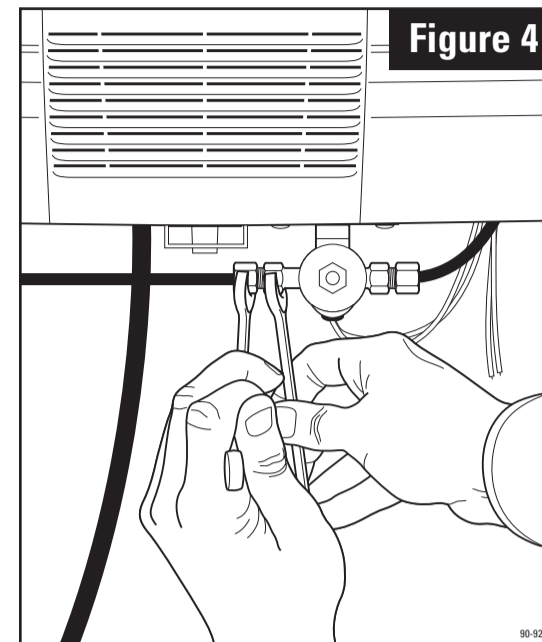

Figure 4
8. Run 1/4" copper tubing from saddle valve to solenoid valve. **DOUBLE-WRENCH TO PREVENT LEAKING.** See **Figure 4**.